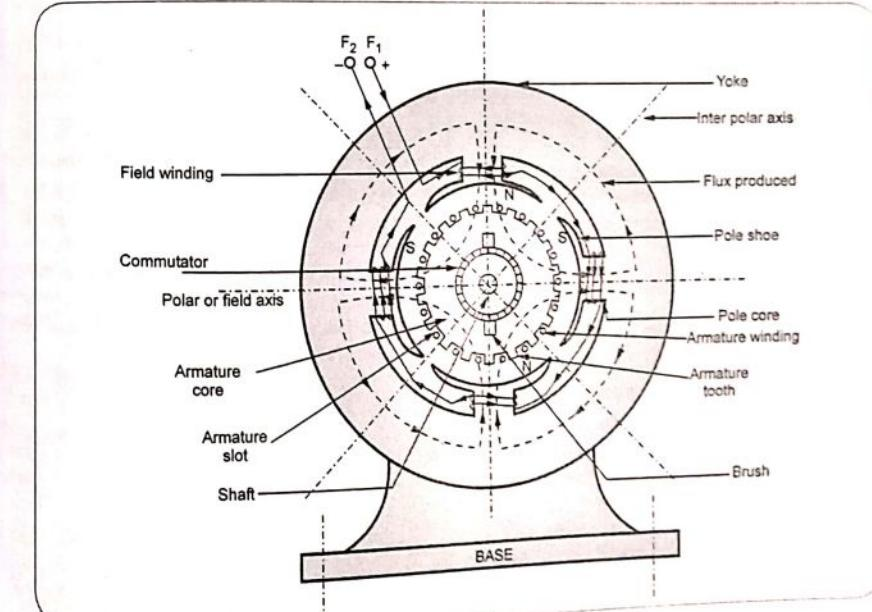

Fig. 7.3.1 A cross-section of typical d.c. machine
• Whether a machine is d.c. generator or a motor the construction basically remains the same as shown in the Fig. 7.3.1.